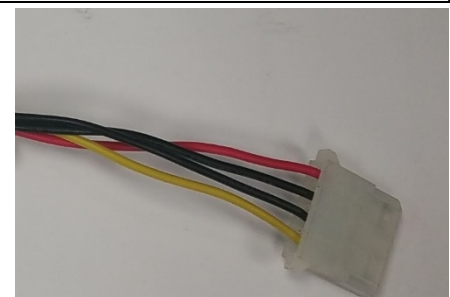

Figure 3
- b. Check the voltages of the power supply at one of the available accessory connectors (see Figure 3)